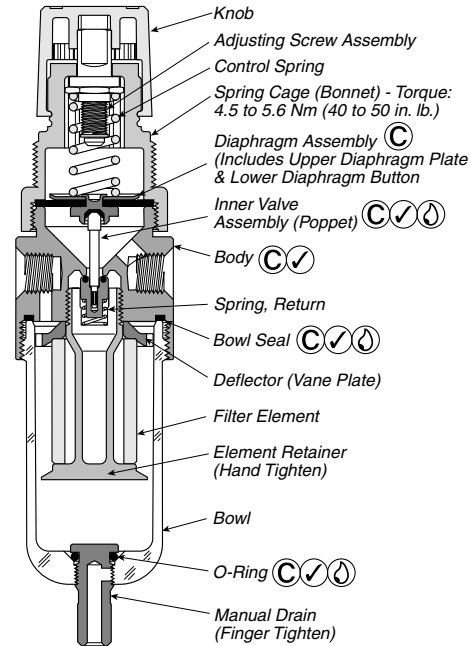

Figure 1
Servicing Filter Element - (Refer to Figure 1)
Servicing Regulator - (Refer to Figure 1)
9. Install Diaphragm Assembly into Body Assembly. Assemble Bonnet Assembly onto Body and tighten per Figure 1.